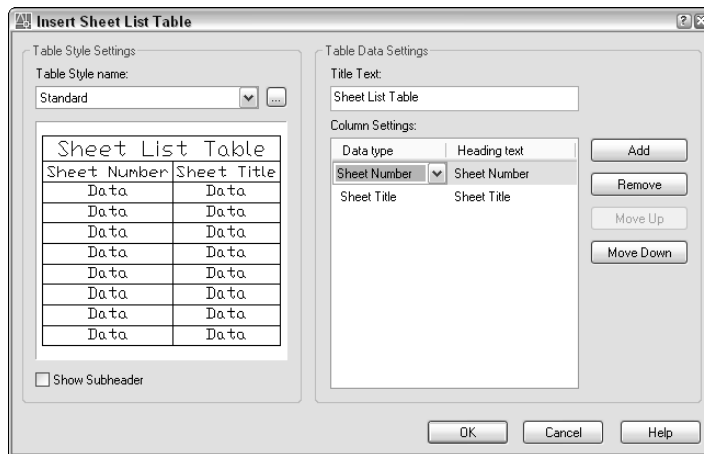

Figure 26-25: Use the Insert Sheet List Table dialog box to create a table that lists all of the sheets in your sheet set.
3. Right-click the sheet-set name and choose Insert Sheet Set Table to open the Insert Sheet List Table dialog box, shown in Figure 26-25.